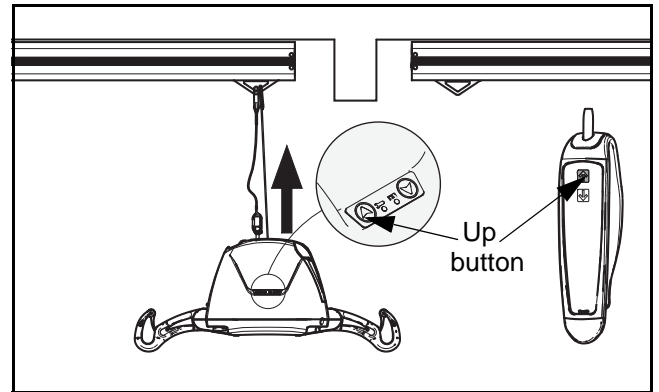

Fig. 22
- 5) Hook the portable lift's carabiner to the second trolley. Press the UP button on the hand control until the extension strap become slack, and the patient is at a comfortable height (see Fig. 22).